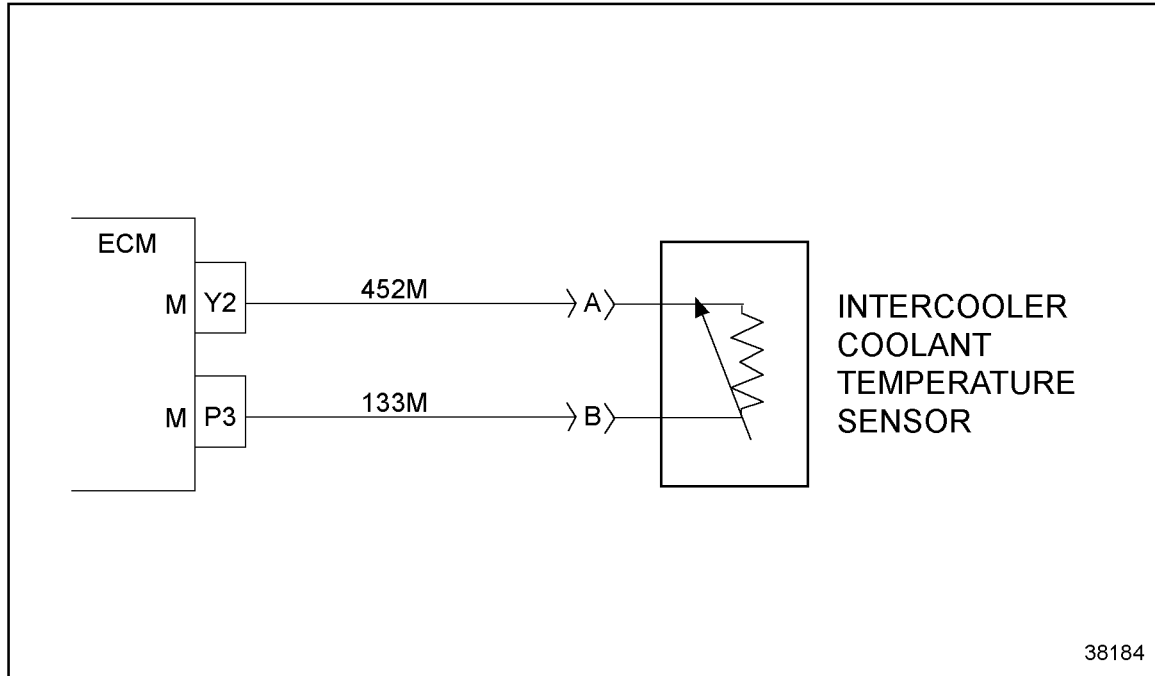

Figure 15-9 Temperature Sensor Circuits
1. Check terminals at the ICTS connector (both sensor and harness side) for damage; bent, corroded and unseated pins or sockets. See Figure 15-9.